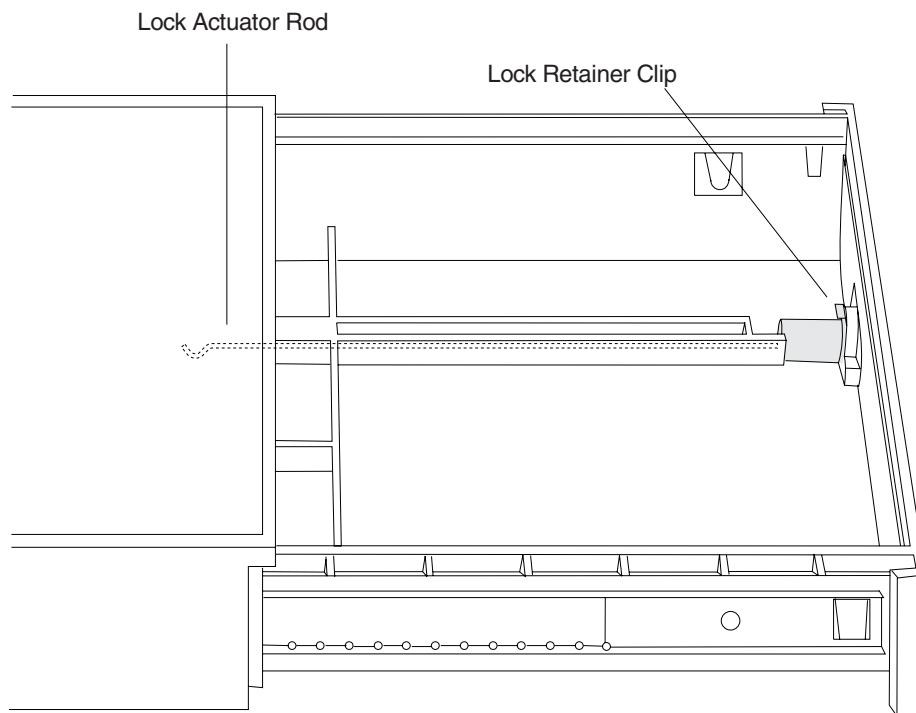

Figure 95. Keylock assembly
2. Remove the lock retainer clip holding the keylock assembly on the inside of the drawer (see Figure 95 on page 114).
1. Ensure that the lock actuator rod is in the position shown in Figure 95.